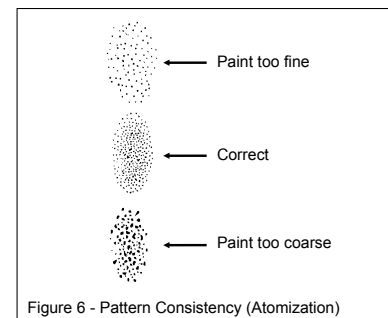

Figure 6 - Pattern Consistency (Atomization)
**NOTE:** If the spray is too fine, which is caused by too much air from amount of paint being sprayed, reduce the air pressure or open the fluid control knob more to spray more paint. If the spray is too coarse or spitting blobs, reduce the amount of paint with the fluid control knob or thin the paint more. (See Figure 6)